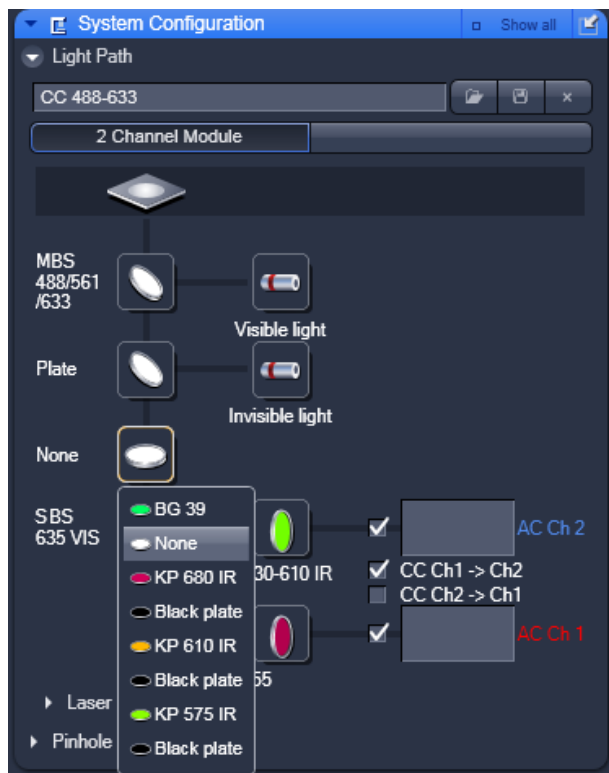

Fig. 25 System Configuration tab - Light Path panel with IBF filter list
- Click on the IBF icon to open a list of block filters (Fig. 25).